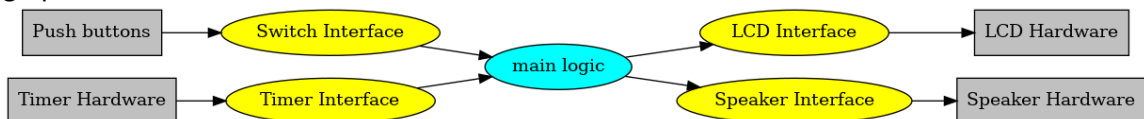

Figure 3.1. Data flows from the timer and the switches to the LCD and speaker.
4. Write one main program that implements the digital alarm clock. Figure 3.1 shows the data flow graph
- a. If you organized the system different than Figure 3.1 and 3.2, then draw its data flow and call graphs